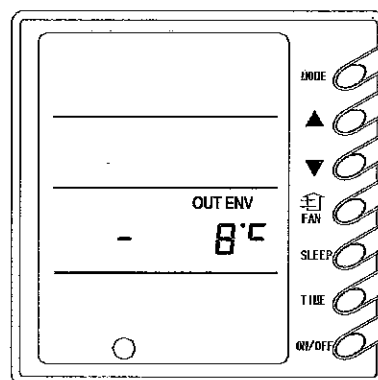

Fig 10
9) Display of Outdoor Ambient Temperature (Figure 10)(The function is unavailable for some units)